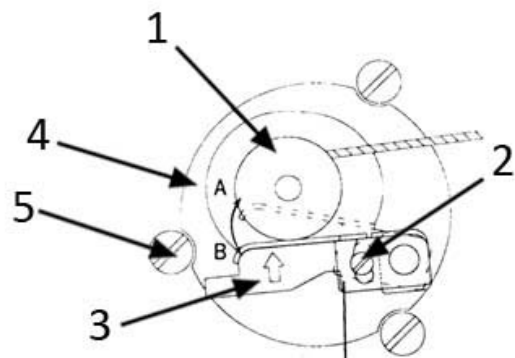
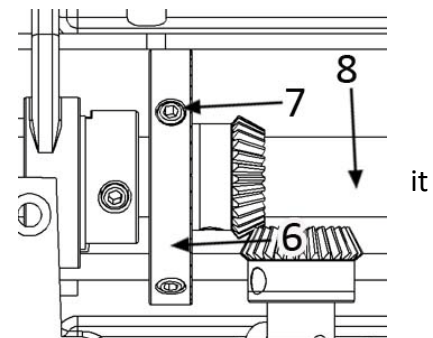

Fig. 41
Fig. 42
Setting amount of wound thread (fig. 41)
- A. Remove 3 screws (5) - fig. 41, and take out the bobbin winder (4), reaching access to the driving wheel (6), fig.42.
- B. Loosen screws (7) and set the wheel (6) by moving on the main shaft (8) until it is in the required contact with the driving ring of the winder (4).